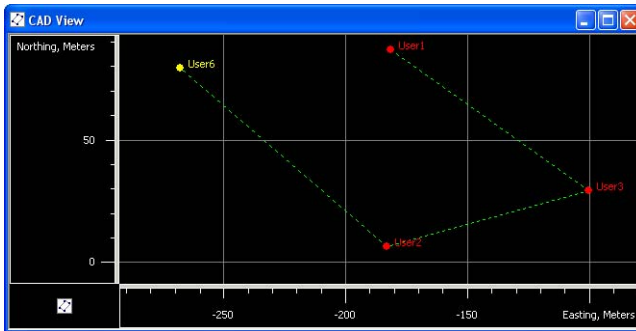

Figure 5-45. Example: Appending Points to the Line
3. Click any line on the CAD view to automatically append the selected point to (Figure 5-45). The *Lines* tab display a new vertex of the line